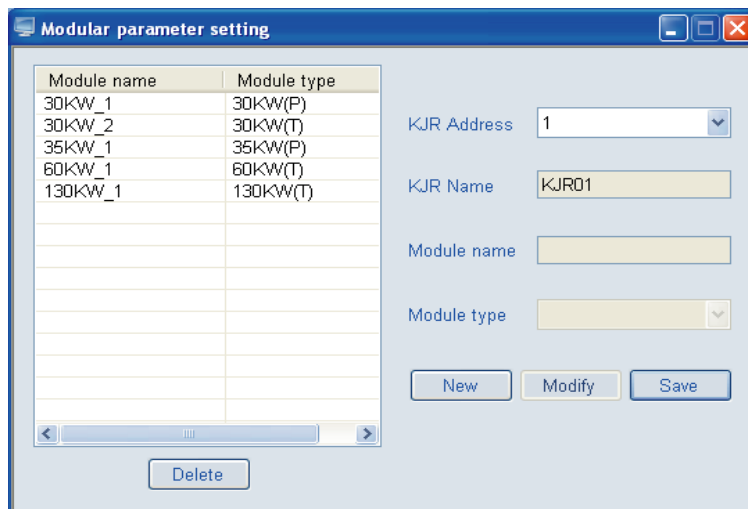

Fig.4-25
- ② Click the “Module parameter setting”, a window as Fig.4-25 will pop up: add module group under connect with the wired controller